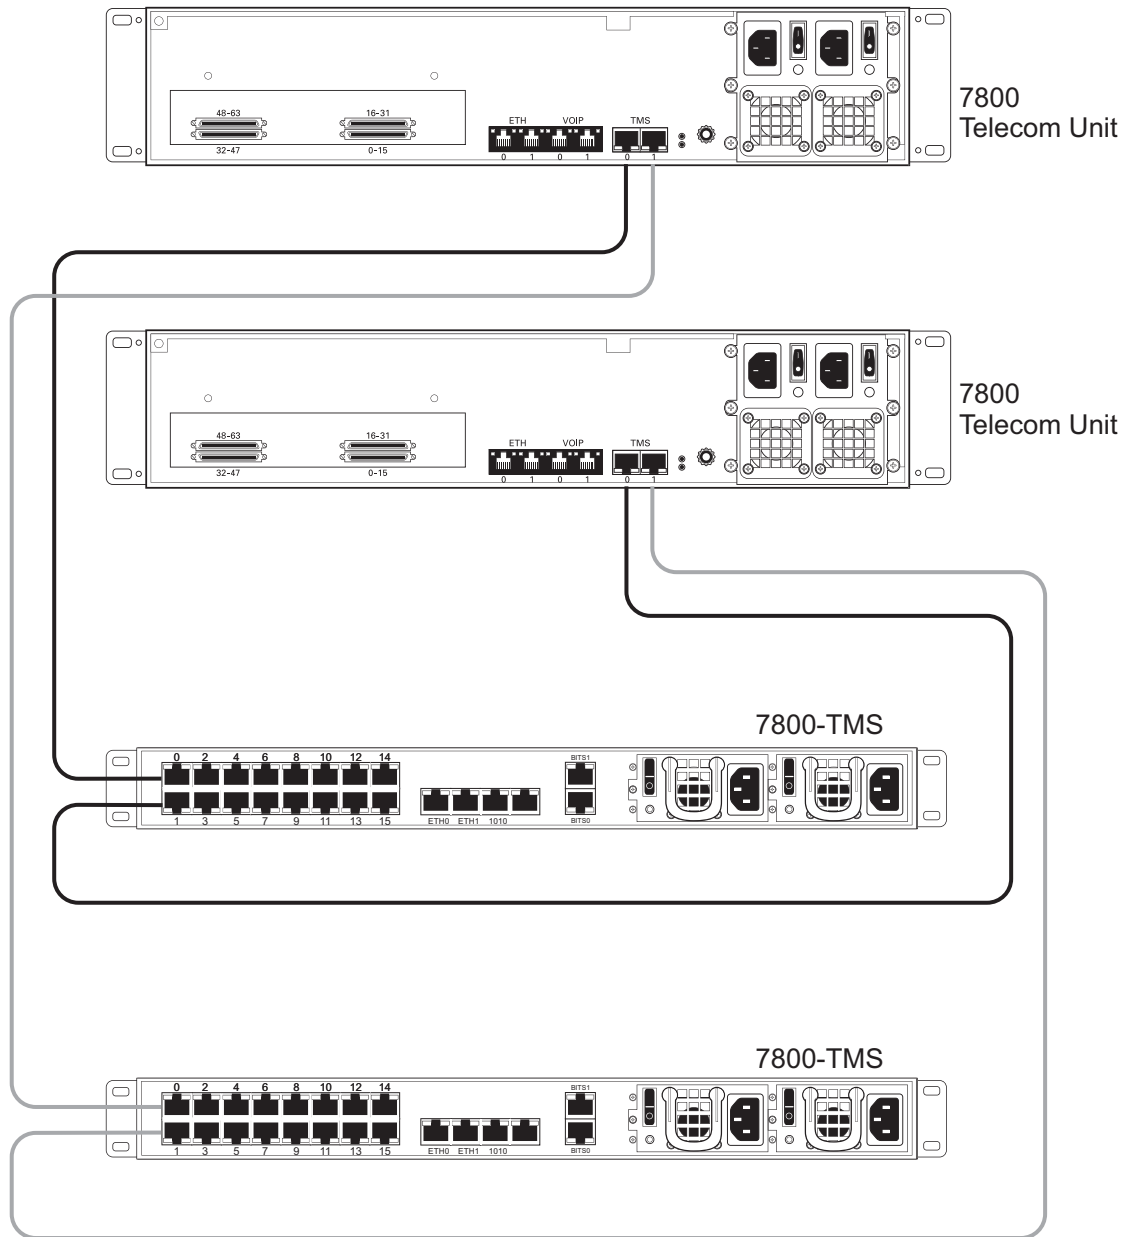

Figure 4.7 Interconnecting Two 7800 Telecom Units to an active and standby 7800-TMS
1. Start with the 7800 Telecom Unit at the topmost position of the equipment rack and connect a CAT7 shielded Ethernet crossover cable to the TMS0 connector at the rear of the 7800 Telecom Unit, figure 4.7 on page 33. Connect the other end of the same CAT7 cable to the first port of the first 7800-TMS.
2. If your system employs a second 7800-TMS, connect a second CAT7 shielded Ethernet crossover cable to TMS1 at the rear of the TMG7800 Telecom Unit, figure 4.7 on page 33. Connect the other end of the same CAT7 cable to the first port of a second 7800-TMS.